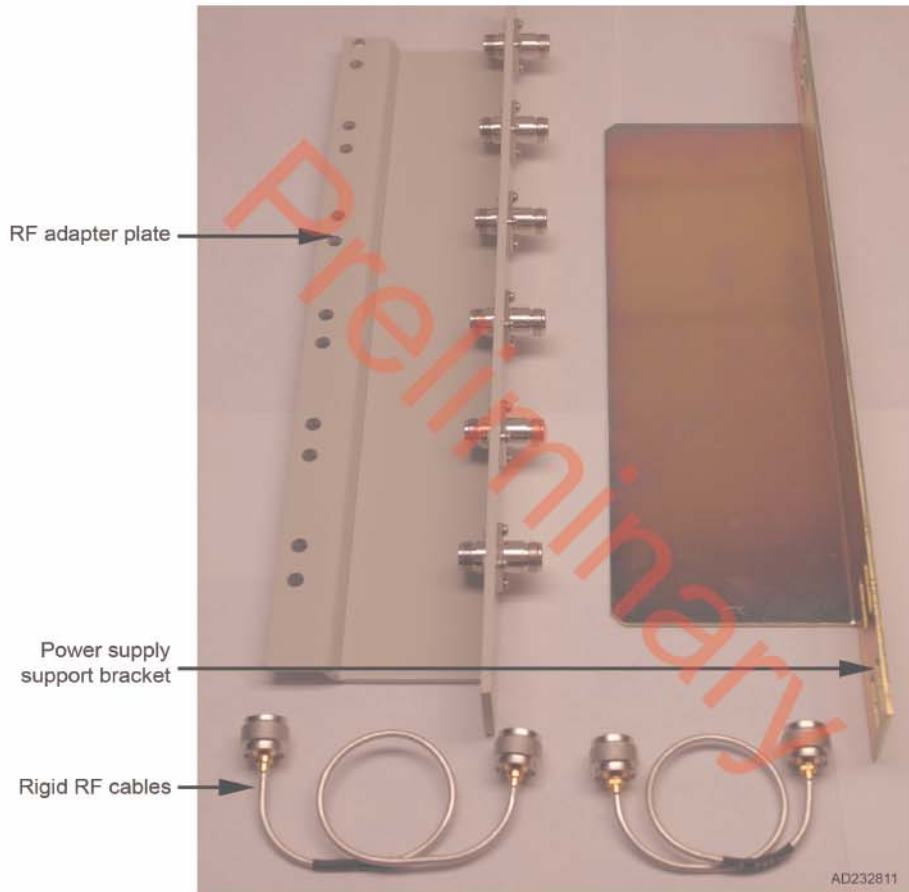

Figure 2-4: Rack Mount Assembly
- One standard 19" rack mount shelf assembly, shown in Figure 2-4, including: